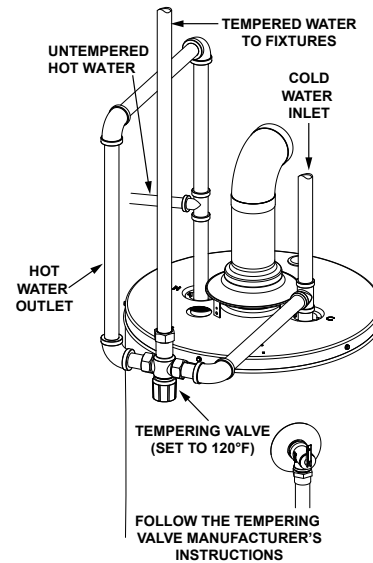

FIGURE 23.
3. The manufacturer of this water heater recommends installing a tempering valve or an anti-scald device in the domestic hot water line as shown in Figure 23. These valves reduce the point-of-use temperature of the water by mixing cold and hot water and are readily available for use.